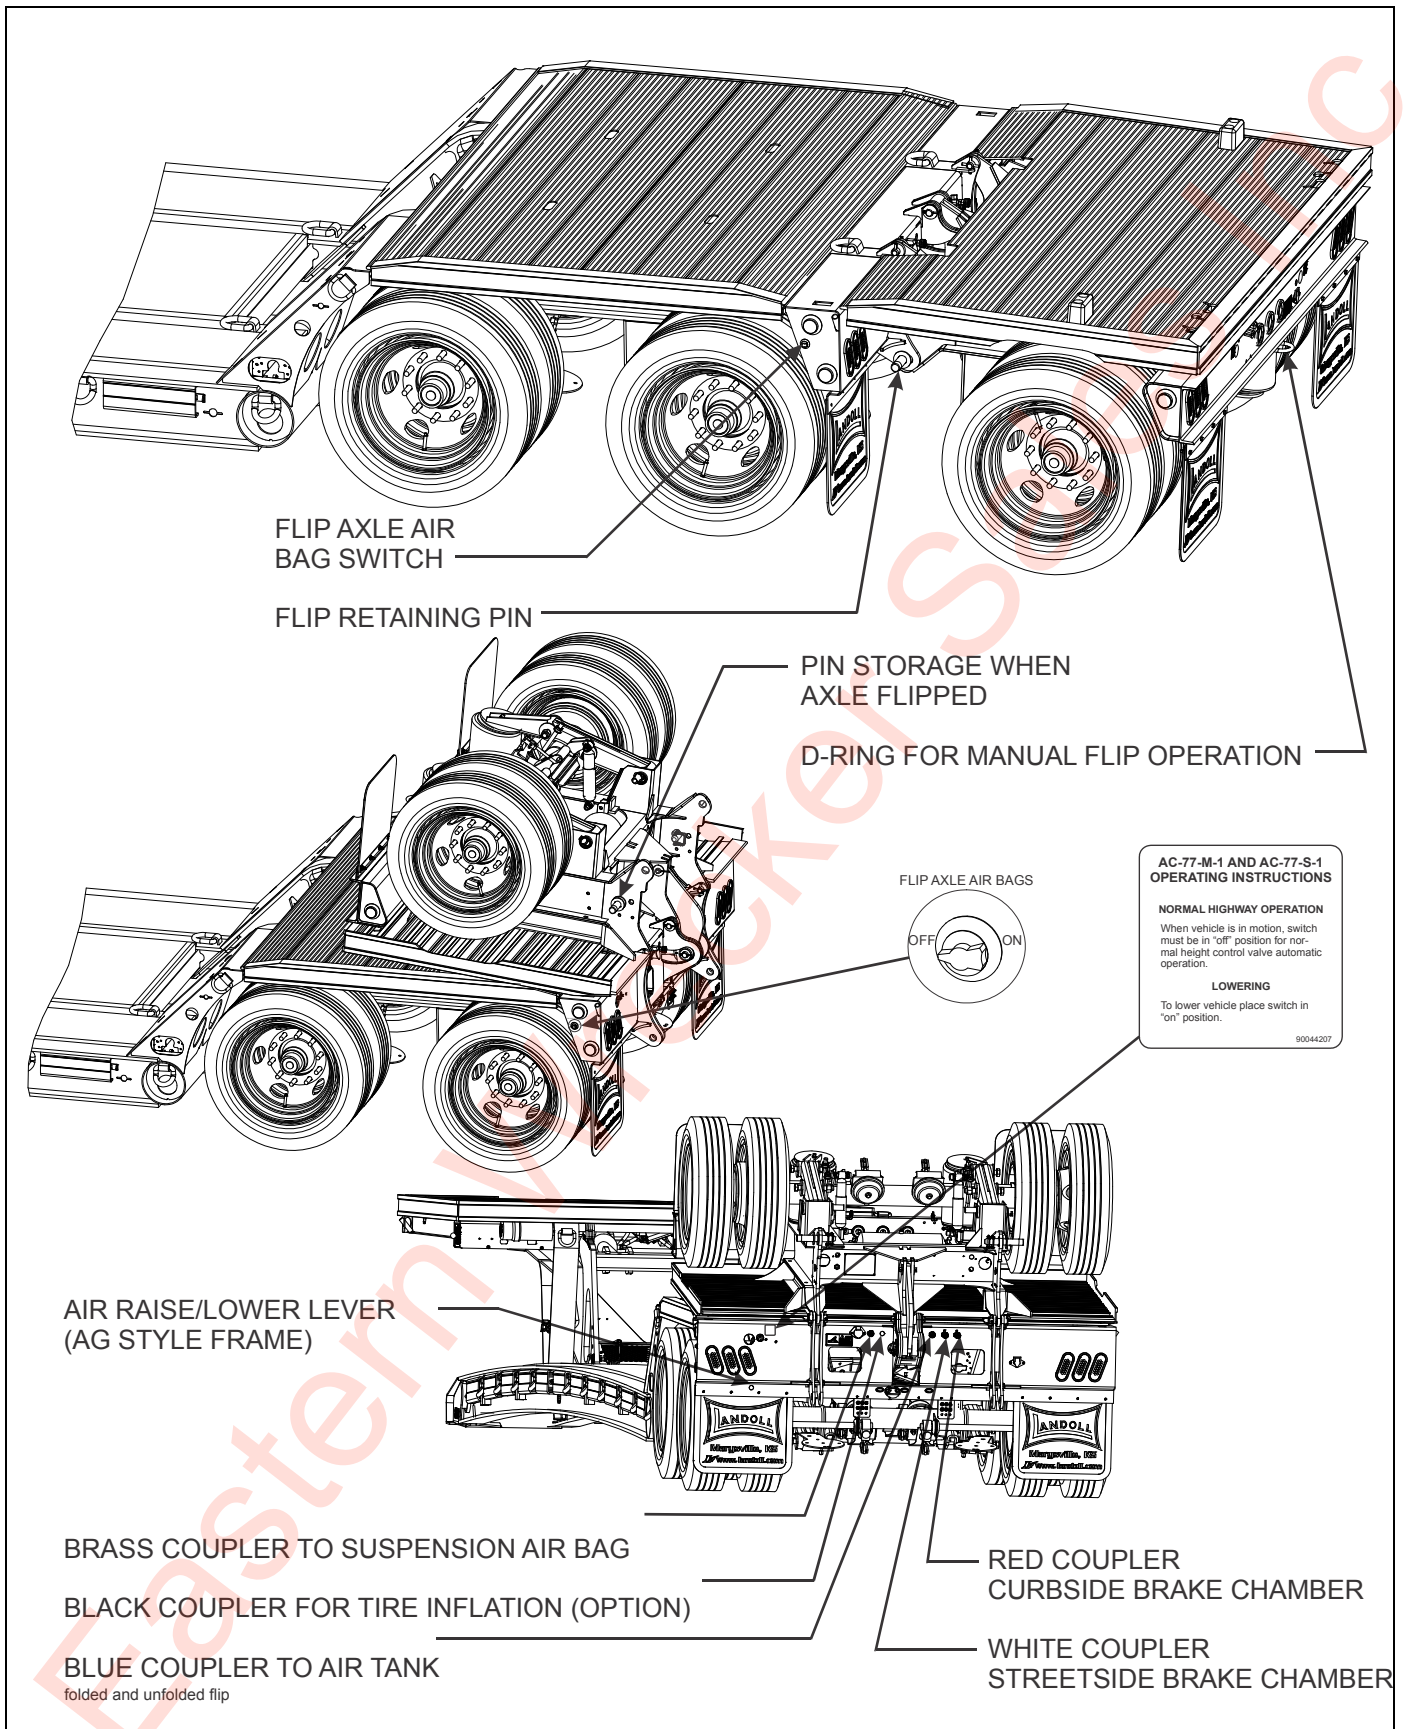

Figure 3-9: Folded and Unfolded Third Axle Flip
2. Turn switch for flip axle air bags to the “OFF” position. This will allow flip axle to settle down for easy removal of flip axle lower retaining pins (See Figure 3-9.)
3. Check that switch for flip axle air bags is in “OFF” position. This will allow flip axle to settle down for easy installation of flip axle lower retaining pins (See Figure 3-9.)